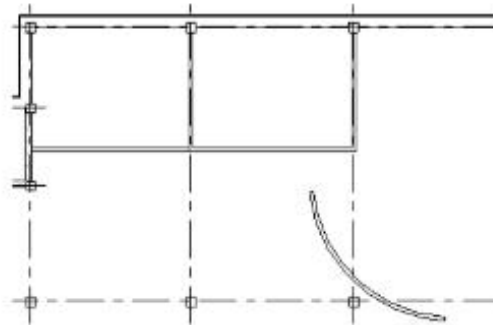

Figure 4-30
2. Zoom out and add a **2500mm** high curved wall using the same interior wall type to separate the Lobby from the Breakfast area, as shown in Figure 4-30.